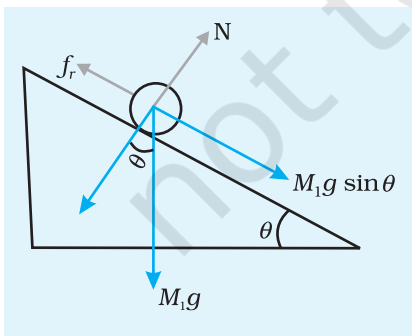

Fig. E 8.2: Free body diagram
3. Start decreasing the masses in small steps in the pan until the roller just starts moving down the plane with a constant velocity. Note W and also the angle θ . Fig. E 8.2 shows the free body diagram for the situation when the roller just begins to move downwards.